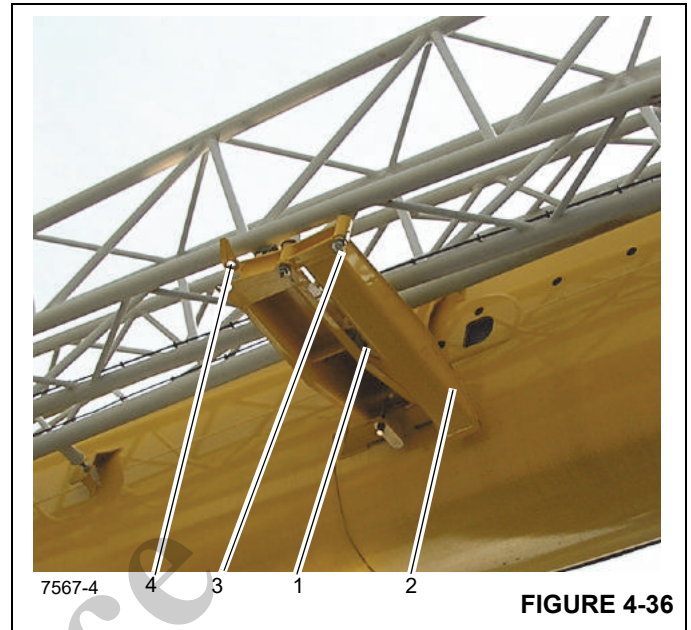

FIGURE 4-36
- a. Guide the tag line around the end of the extension and through the bracket (4) on the main boom and back again.
4. Release the spring latch (1) (Figure 4-36). Fold out the run-up rail (2) until the locking pin (3) engages the tab (4).